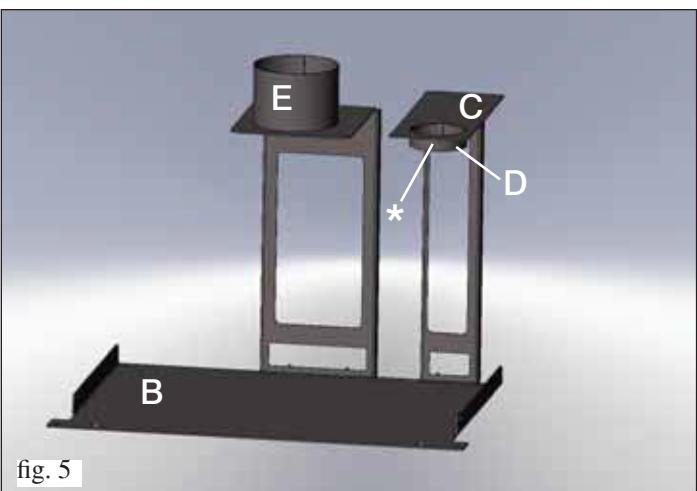

fig. 5
- Cut the tube to size and fit the end of the tube on the centring bracket (E fig. 3 to the side and fig. 5 on pg. 30) and fasten it using the clamps provided.
Assemble the facilitation kit as shown in figure 5.
- Fit the chimney flue on the collar of the bracket (C) placing it on the dedicated screws (*) (fig. 5).
- Fit the pellet loading tube on the collar of the bracket collar (E) fig. 5 to the side and fig. 3 on pg. 28), securing it with the clamp supplied.